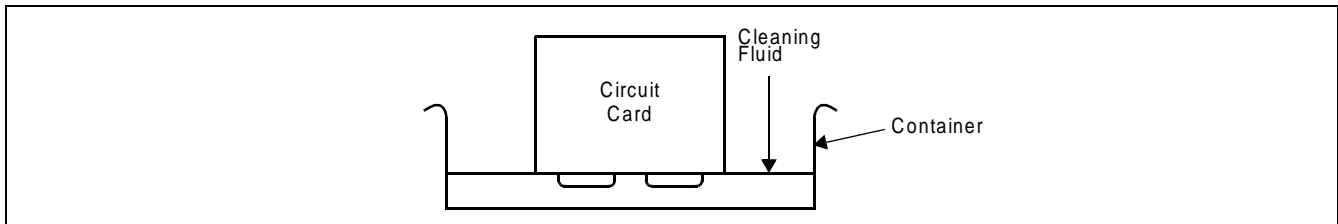

Figure 2-31 How to Clean the Connector Portion
- (4) How to clean the connector portion (gold-plated terminal):
- (a) Dip the gold-plated terminal portion in the cleaning fluid for 3 to 5 seconds (only PA-XX type circuit card), as shown in Figure 2-31.